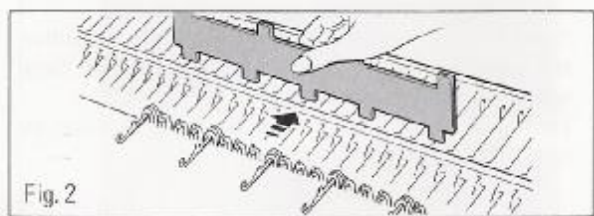

Fig. 2
4. Push back the needles in D position to C position using Needle Pusher, and knit 1 row. (Fig. 2)